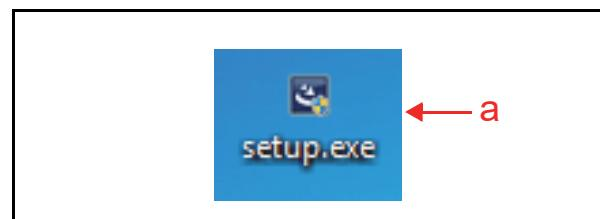

Figure 6-2 JCM Tool Suite Installation 1
2. Double-click on “Setup.exe”(Figure 6-2 a).